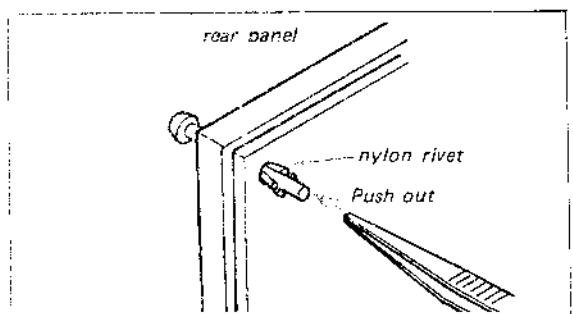

Fig. 2-14. Nylon rivet removal
1. Remove the nylon rivets securing the defective component by pushing its end with a tweezers as shown in Fig. 2-14.